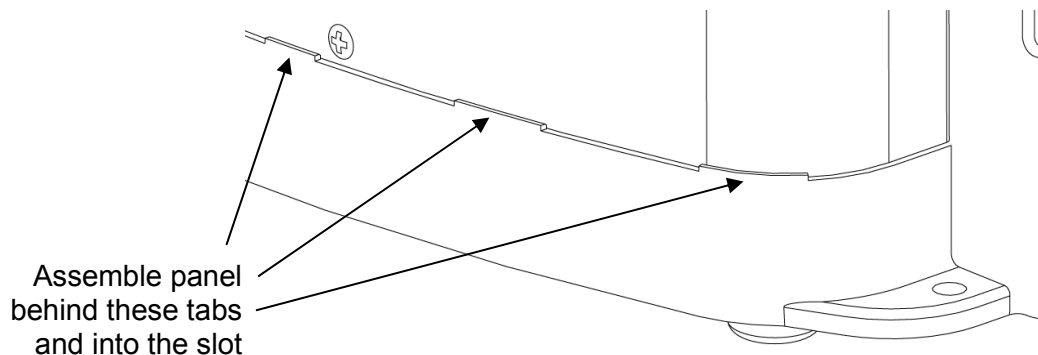

FIGURE 19: ASSEMBLE PANEL BEHIND TABS
32. **Replace the right side panel assembly.** Place the side panel assembly back onto the machine making sure that the bottom of the panel sits into the grooves and tabs located on the base casting (Figure 19). Also make sure to replace any spacing washers removed in Step 4 situated on top of the corner posts. Insert the two bottom screws and tighten with a #2 Phillips screwdriver. Insert the top hex head bolts (with washers) and tighten with the 10mm socket.